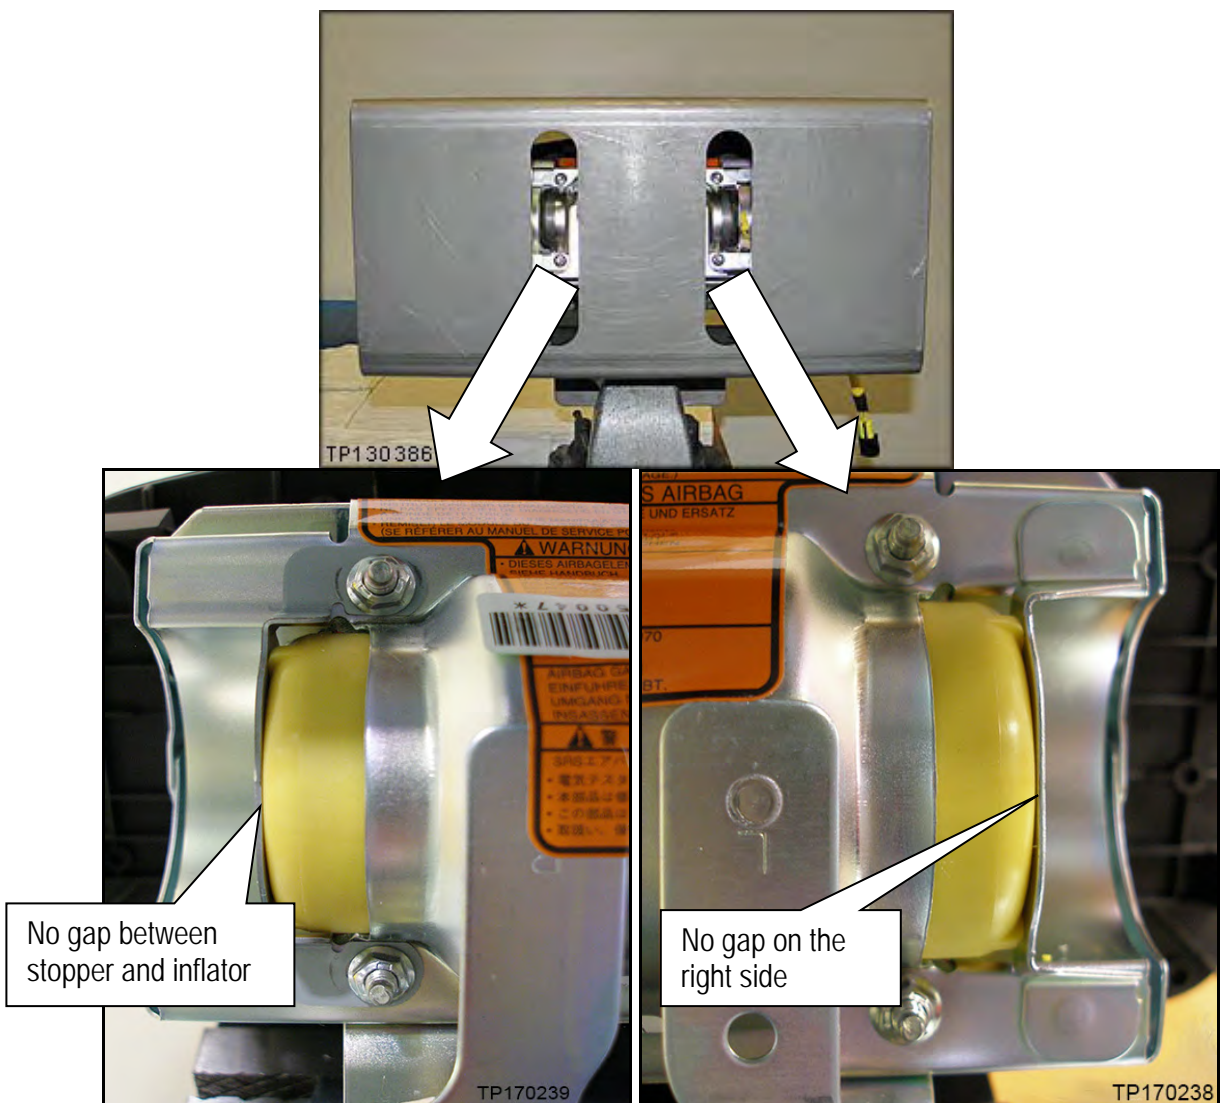

Figure 24
32. Install the 4 inflator securing nuts finger tight (see Figure 24).
33. Make sure the inflator is pushed all the way into its housing – no gap on the right side (see Figure 24).
34. Make sure there is no gap between the inflator stopper and the inflator (see Figure 24).